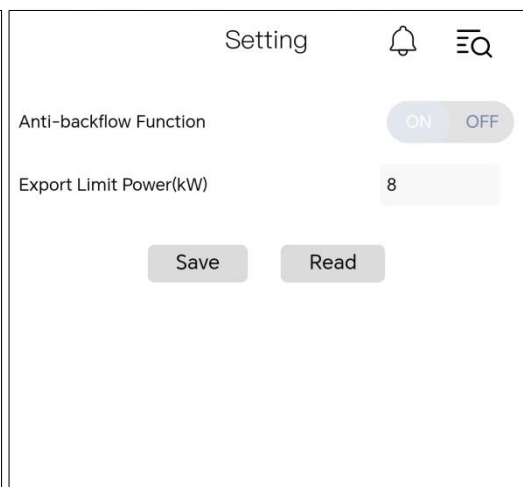

Figure 5-21
- 4) Set up the export limit power, and click 'Save'. Refer to Figure 5-21. Add the inverter operation in the EnerLink can refer to the WIFI user manual.